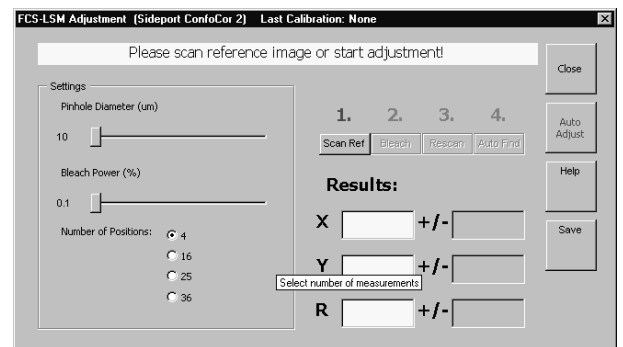

Fig. 5-402 The Macro "Fcs-Lsm" display before offset compensation
- Once **Ok** was chosen, the **Lsm-Fcs** macro window will be displayed (see Fig. 5-402).